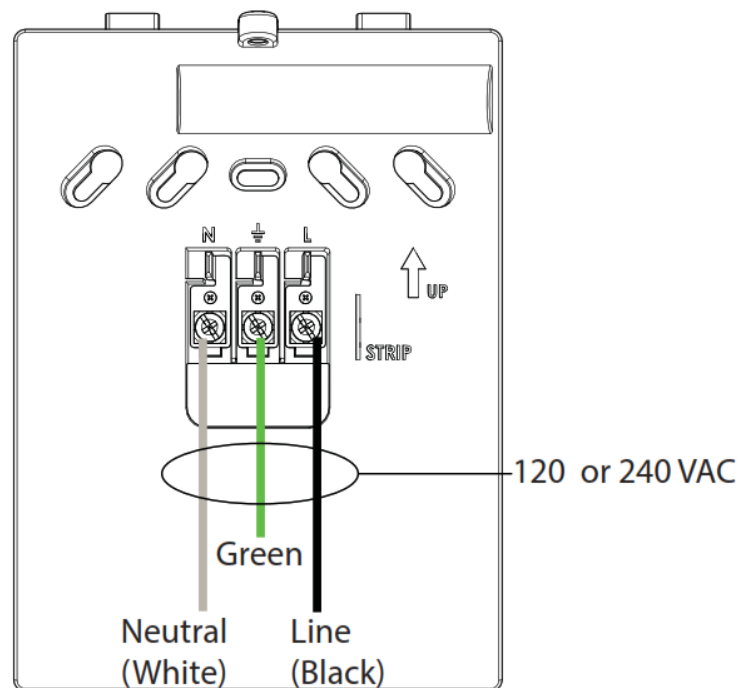

Figure 2 Mounting Plate (Front View)
1. Mount the mounting plate with the arrow pointing up, see Figure 2.